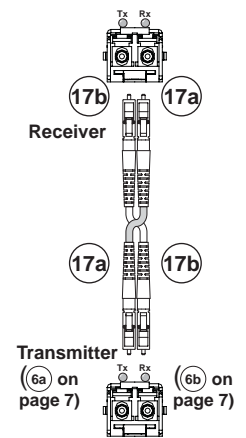

Figure 5. Two Way Configuration
- Two way (transmitter to receiver and return)** — Connect fiber cable 17a (from transmitter connector 6a) and fiber cable 17b back to the transmitter (connector 6b). See figure 5.
Normal configuration — For all one-way return serial communications from the receiver to the Rx connector on the transmitter. See figure 5.